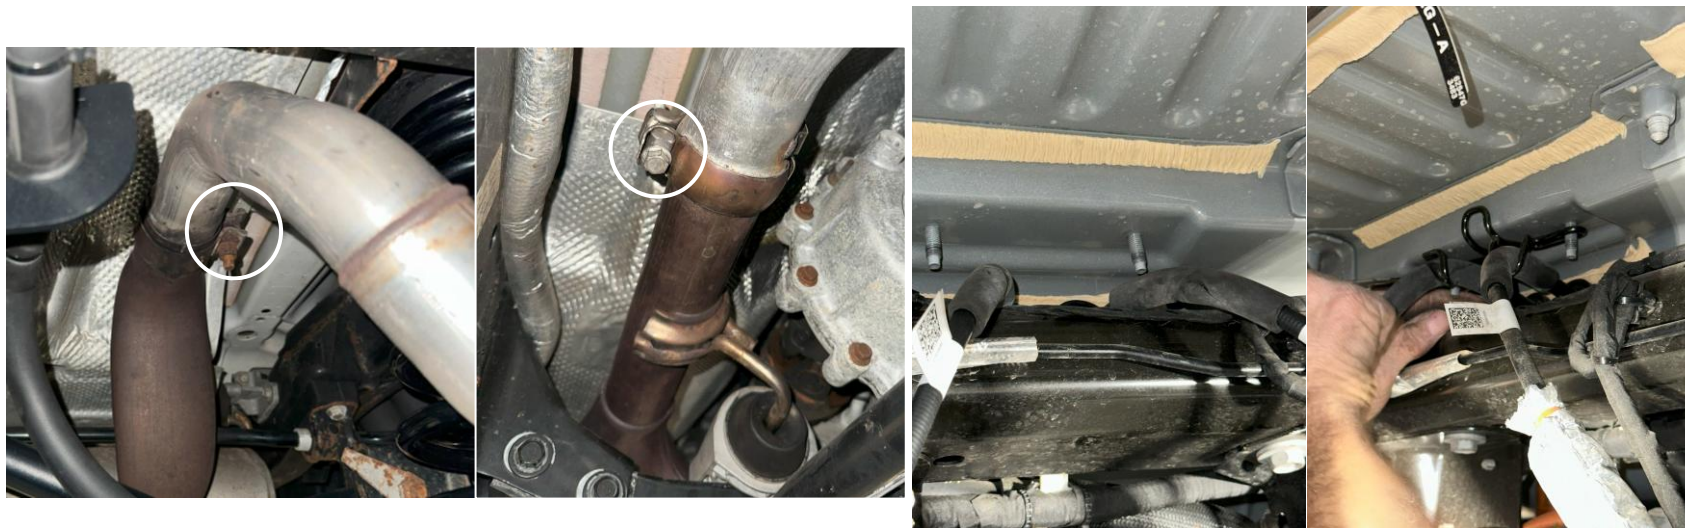

Figure 25: Rear exhaust section clamps to be removed and emergency brake cables hanging freely
- Remove the rear exhaust section at the clamps near the muffler and the cross member (Figure 25) and fully remove the section